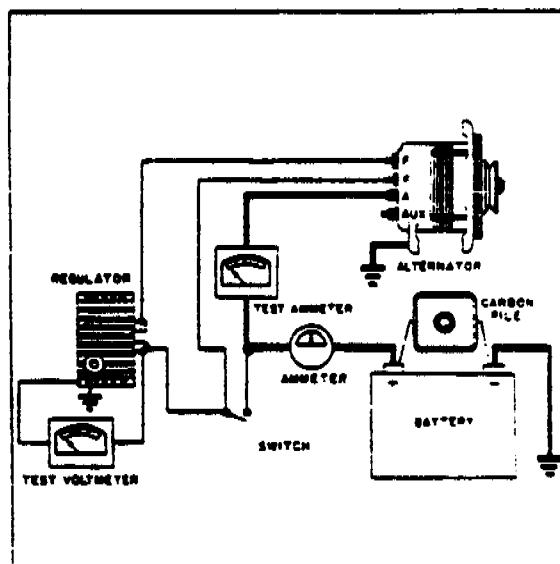

FIGURE 9-27q. TESTING REGULATOR
a. The procedure for testing the regulator, whether on the airplane or on the test bench, remains the same. Connect test meters as shown in Figure 9-27q.
d. Connect the voltmeter and the ammeter as shown in Figure 9-27q. Start the engine and adjust its speed to obtain 3,000 to 4,000 alternator RPM. Turn on accessories as needed to establish 10 to 15-ampere electrical load, or use a carbon-pile across the battery to obtain this charge rate.